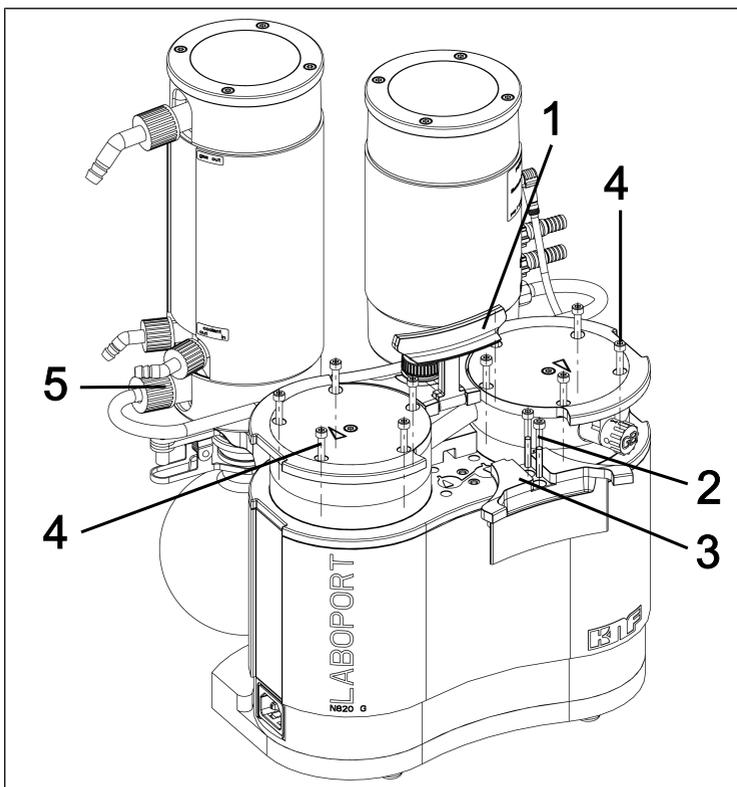

Fig.25: Remove handle cover
2. Remove the union nut of the hose connection (5/ Fig. 25) from the vacuum system components.
3. Put the handle (1/ Fig. 25) into a vertical position.
4. Loosen the two screws (2/ Fig. 25) of the handle cover (3/ Fig. 25).
5. Remove the handle cover (3/ Fig. 25).
6. Loosen the external head screws (4/ Fig. 25) on both pump heads.
1. Mark the pressure plate (2), head plate (3) and intermediate plate (6) with a continuous pencil stroke. This prevents the parts from being incorrectly mounted later on.
2. Remove the external screws (4/Fig. 25) of the pump heads.
8. Tighten the internal head screw (1) in the center of the pressure plate (tightening torque: 1 Nm).
9. Tighten the screws (4/ Fig. 25) in a crosswise pattern (tightening torque: SC820G: 4 Nm; SC840G: 5 Nm)
11. Hand-tighten the union nut of the hose connection (**5**/Fig. 25) on the high-performance condenser (**2**/Fig. 3).
1. Mount the handle cover (**3**/Fig. 25).
2. Tighten the screws (**2**/Fig. 25) of the handle cover (**3**/Fig. 25) (tightening torque: 2 Nm).